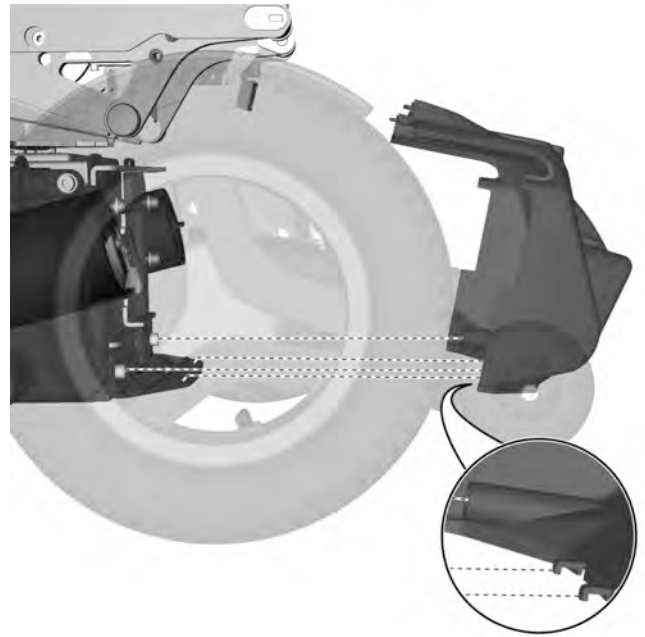

Figure 7. The chassis front cover.
6. Pull the front chassis cover off the chassis. See fig. 7. Note that the cover is assembled partially inside the chassis at the lower edge.
5. Assemble the front chassis cover on to the chassis. See fig. 7. Note that the cover is assembled partially inside the chassis at the lower edge. Position the cover making sure the fixing points are correctly positioned with the screw heads in corresponding holes of the cover.